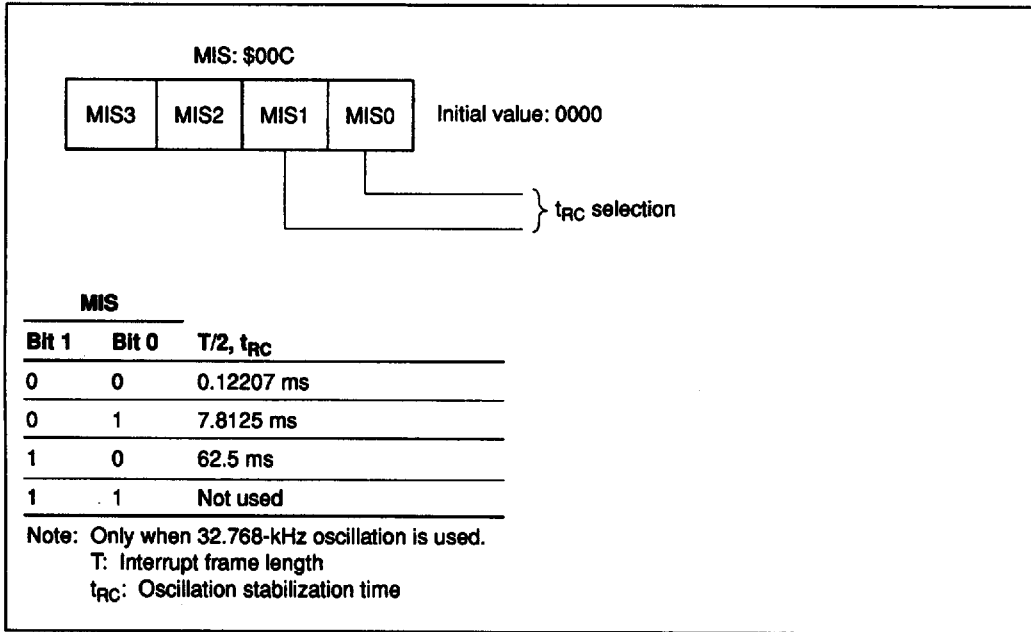

Figure 19 Miscellaneous Register
**Interrupt Frame:** In watch and subactive modes, timer A and  $\overline{INT}_0$  interrupts are generated in synchronism with the interrupt frame. The interrupt frame is repeated at the timing shown in figure 17. Three interrupt frame cycles can be selected by the settings of the miscellaneous register (figure 19).